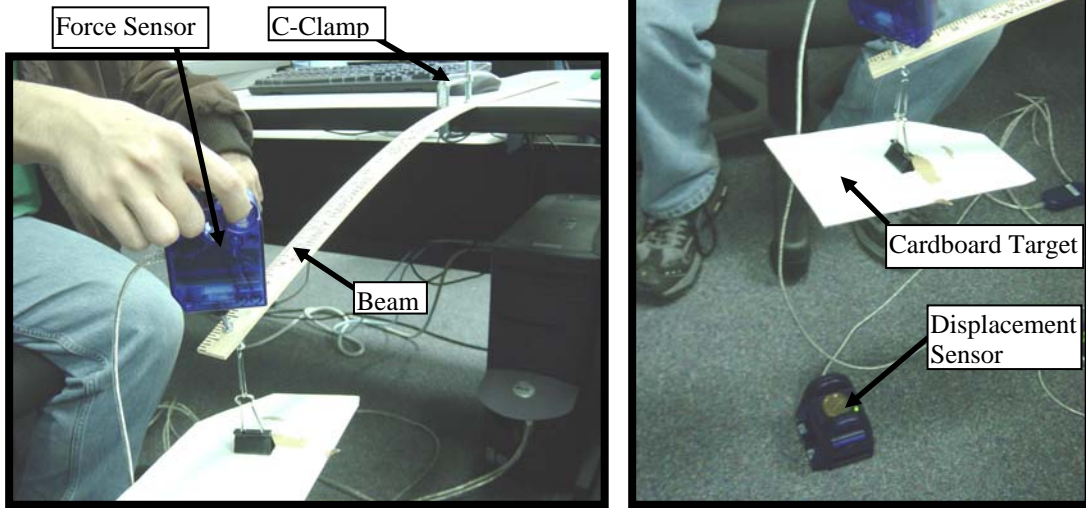
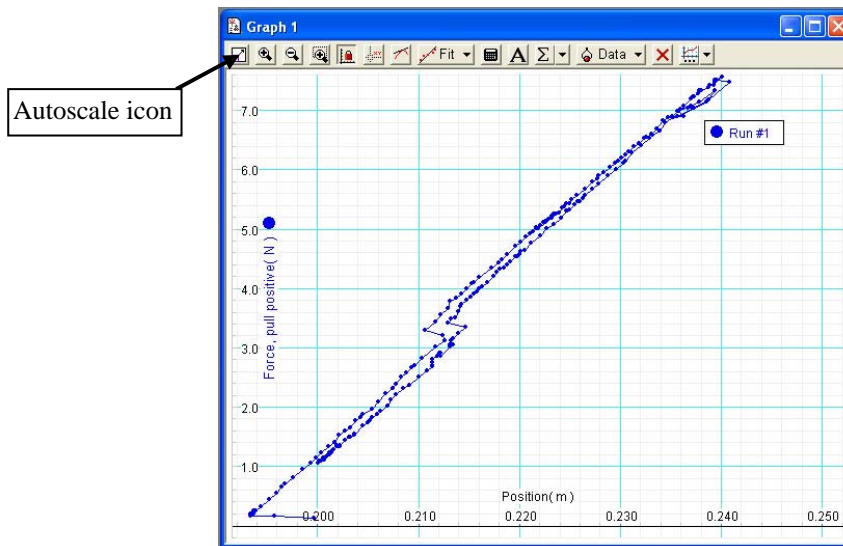

Figure 4. Experimental setup
Figure 5. Typical Force vs Position graph
- d. You are ready to collect Force vs. Position data (the set-up should look like Figure 4)
6. Collect force vs. position data (by pushing the start button) while you pull gently up on the force sensor with your hand and release it, as shown in Figure 4. You should get a relatively linear response, similar to that shown in Figure 5 (Note: the sign of the slope doesn't matter, it just depends on whether your sensor is setup for pushing or pulling as positive, this can be changed by clicking the set-up button) You may need to scale your graph using the autoscale icon (the top left icon in the graphing window). If your graph is not relatively linear, delete the data and repeat. Ensure that the displacement sensor is directly below the cardboard target and that the force load is perpendicular to the floor.